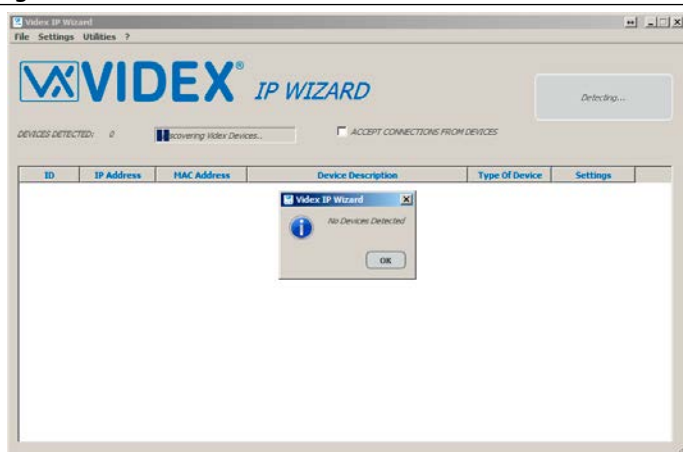

Fig. 57 No Devices Detected
- If you receive the message as shown in (**Fig. 57**) "No Devices Detected", please follow these steps: